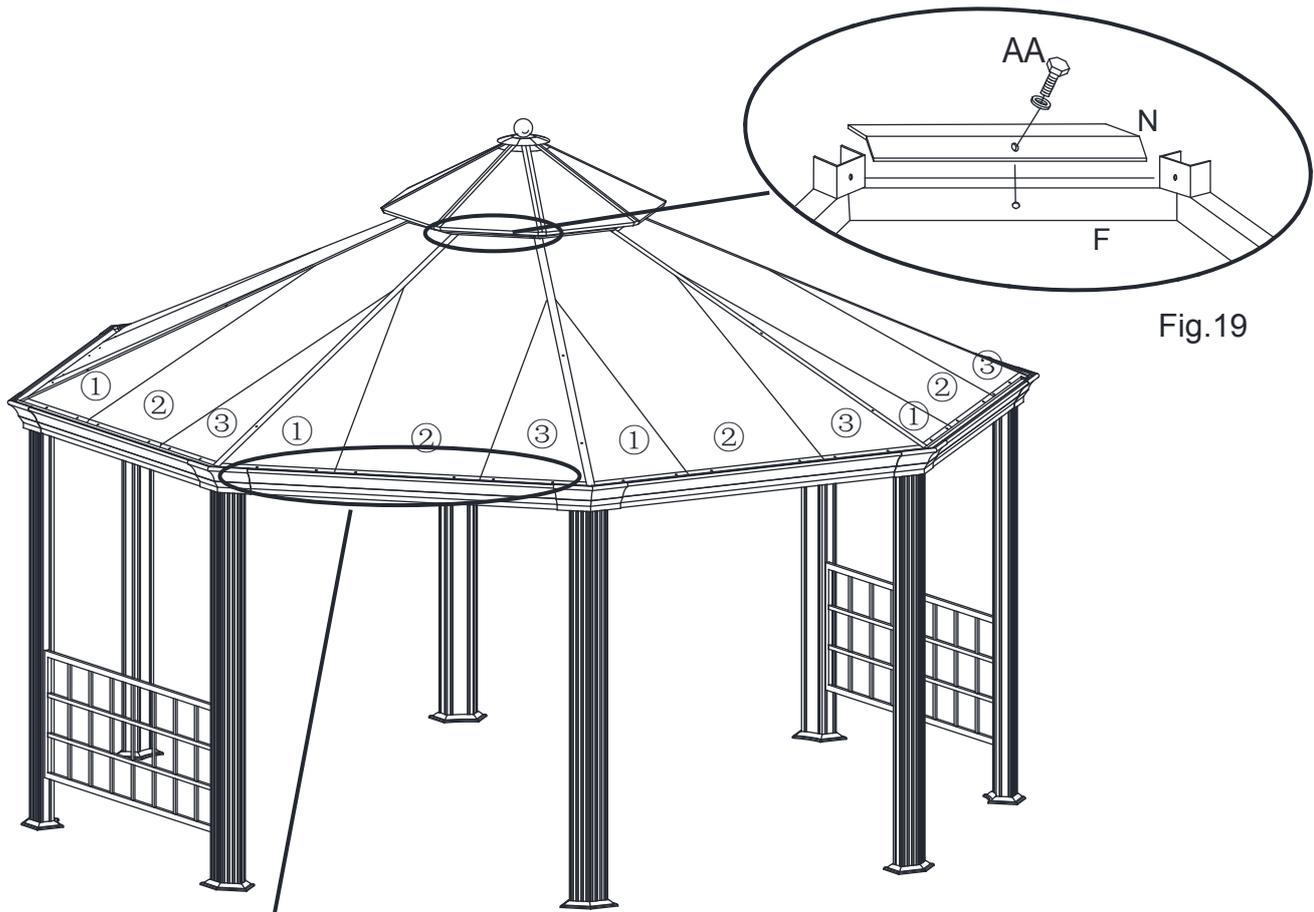

Fig.19
- 12.2 Fix the Connector (N) onto the Roof Ring (F) with Bolts (AA), then connect the other side in the same way, see Fig.19.